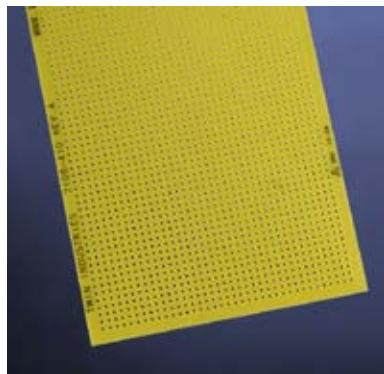
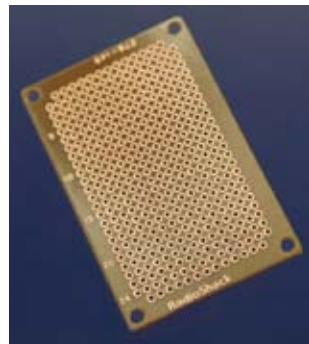

Figure 3-70
Figure 3-71. Either this type of perforated board or the type in Figure 3-70 can be used for point-to-point wiring in Experiment 14.
1. **Point-to-point wiring.** You use perforated board that has no connections behind the holes. Either the board has no copper traces on it at all, as in Figure 3-70, or you will find a little circular copper circle around each hole, as in Figure 3-71. These circles are not connected with each other and are used only to stabilize the components that you assemble.